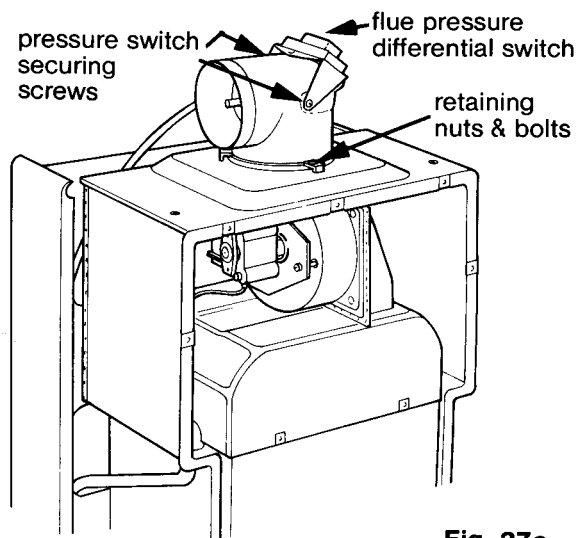

Fig. 37a
- 8.12.4** Release 2 securing screws (fig 37a) and remove switch pulling off air tube in the process.